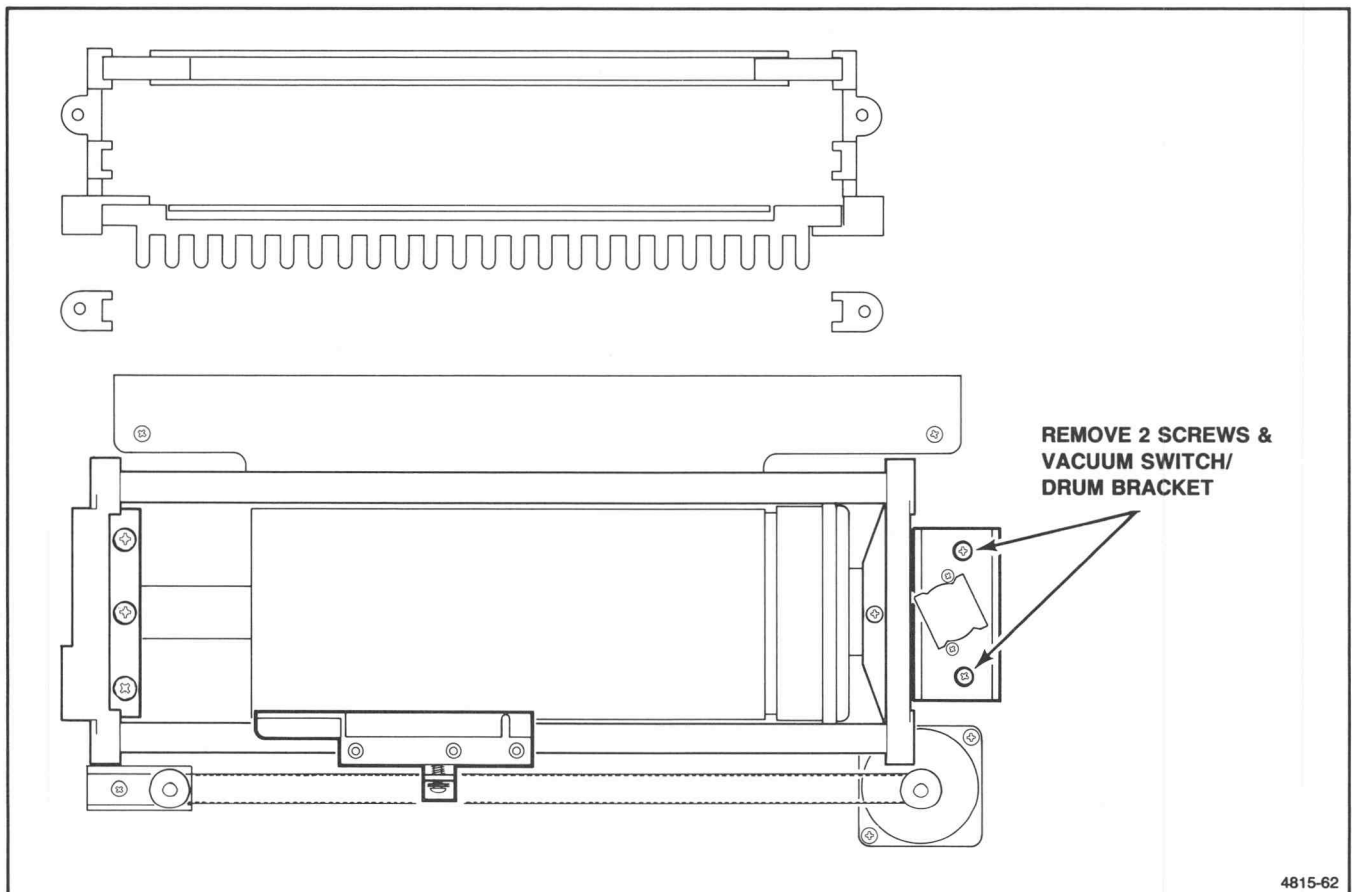

Figure 6-14a. Drum Assembly Removal.
6. Remove the two screws securing the vacuum switch/drum bracket on the right end of the drum — see Figure 6-14a. Set the switch/drum bracket assembly aside. Taking care not to stress the motor cable, lift the drum assembly out of the copier.